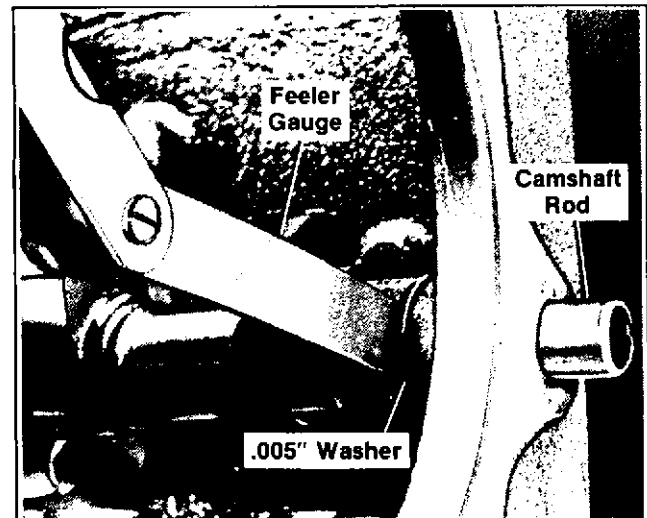

Figure 8-3. Checking Camshaft End Play
2. Position camshaft inside block, then lubricate camshaft pin and insert into the block from the bearing plate side of the engine. Before pushing pin through camshaft, slip one .005" washer (end play) between end of camshaft (opposite gear end) and block. Push rod through camshaft and tap lightly until pin just starts into bore at P.T.O. end of block. Check end play with feeler gauge. If within tolerance (see "Specifications, Wear Tolerances, Torques and Special Tools" Section 9), press pin into final position or remove pin and add (or subtract) .005 and .010" washers as necessary to attain proper end play (see Figure 8-3).